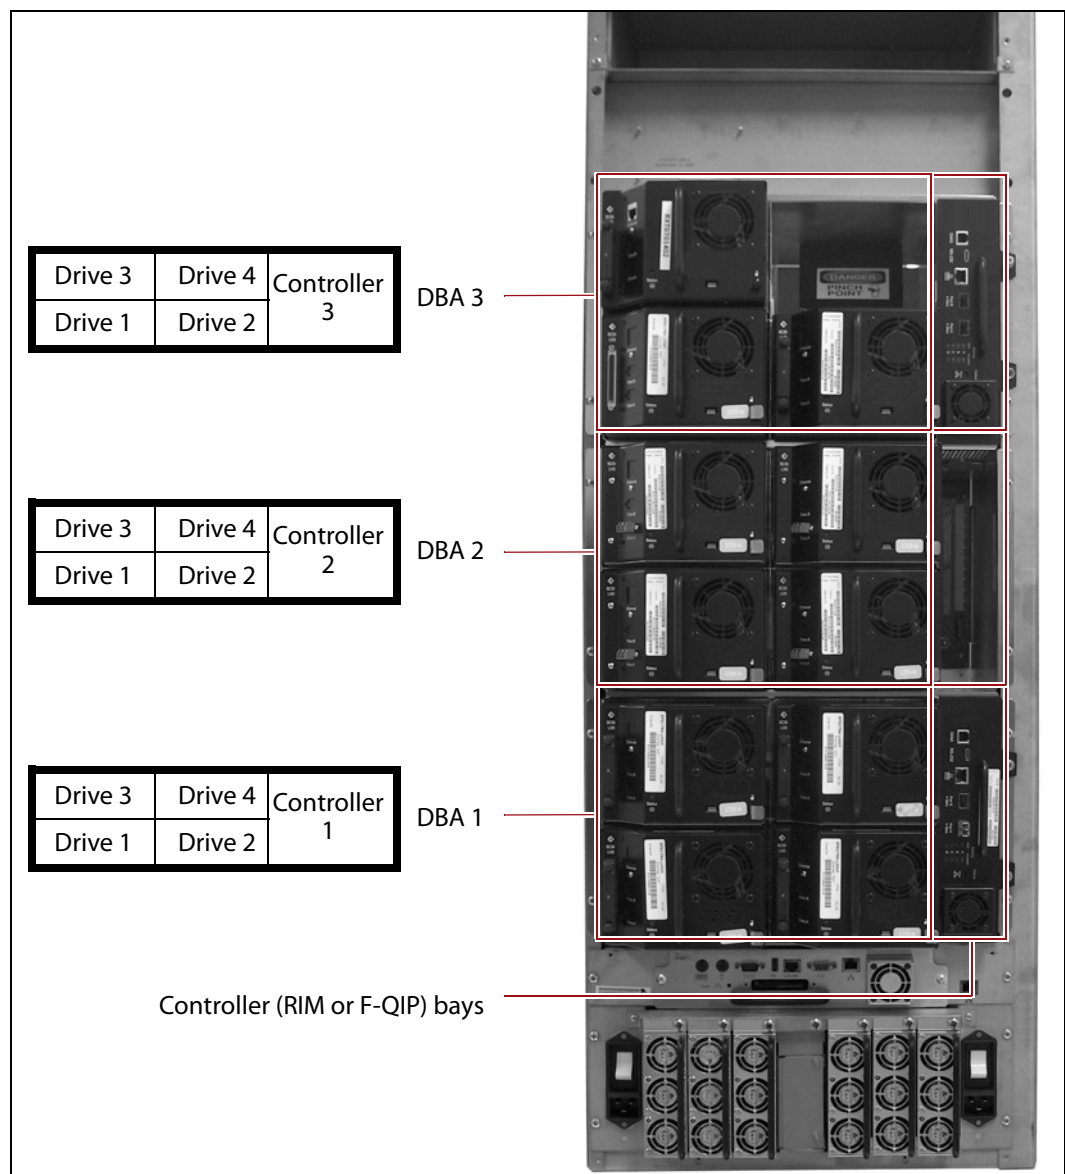

Figure 21 The relationship between the DBA, the component locations, and the identifiers in the BlueScale and XML interfaces (T680 shown).
Figure 21 shows the relationship between the DBAs and the locations of the drives and controllers in the library.
- **DBA x** is the number of the DBA where the RIM or F-QIP is installed (see Figure 21 on page 59).
The component identifier for each drive is based on its location relative to the DBA where it is installed, as viewed from the back of the library (see Figure 21 on page 59). The component identifier for a drive is shown as **DBAx/xTYPE-DRVx**, where: